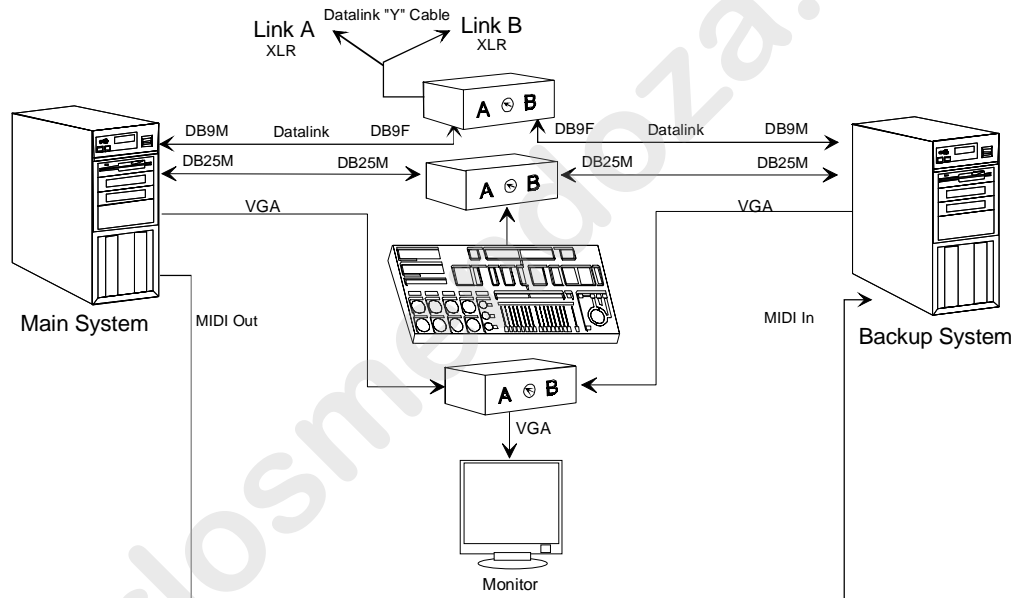

Figure 4. Redundant System
- Single Console Redundant System- one Console, two computers, identical number of LinkCards in each system, and two MIDI Cards. Refer to Figure 4.